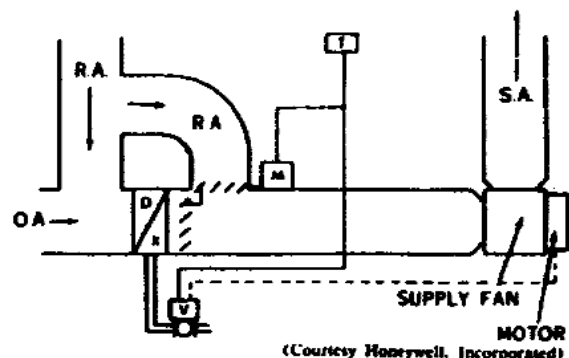

Figure 8. Two-position control of a D/X coil solenoid valve and modulating control of a return air bypass damper.
17. *Two-position control and modulating control of a return air bypass damper.* This system, shown in figure 8, is similar to the system we have just discussed. The only difference is that we bypass return air instead of mixed air under light load conditions.